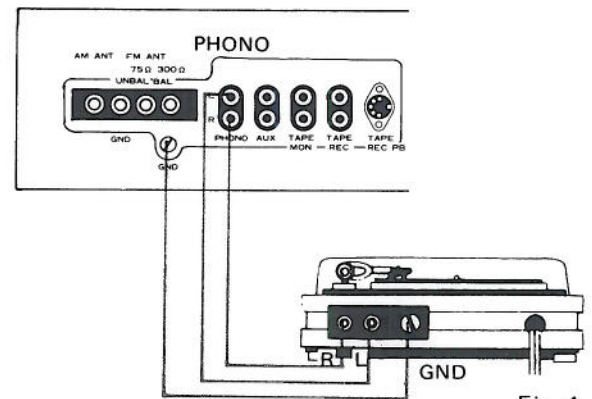

Fig. 4
The stereo turntable with a moving magnetic (MM) phono cartridge can be connected to the PHONO input jacks (see Fig. 4). The upper jack is for the left channel output cable from the turntable, the lower jack for the right channel cable. The ground wire from the turntable should be connected to the GND terminal of the SX-300.